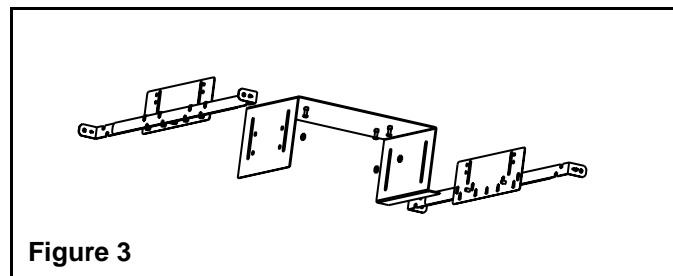

Figure 3
“U” Bracket Installation in a T-bar Ceiling (Figures 3, 4 and 5)
2. Mount the adjustment brackets from the hardware kit on the two sides of the “U” bracket, using the studs and nuts. Do not tighten (see Figure 3).